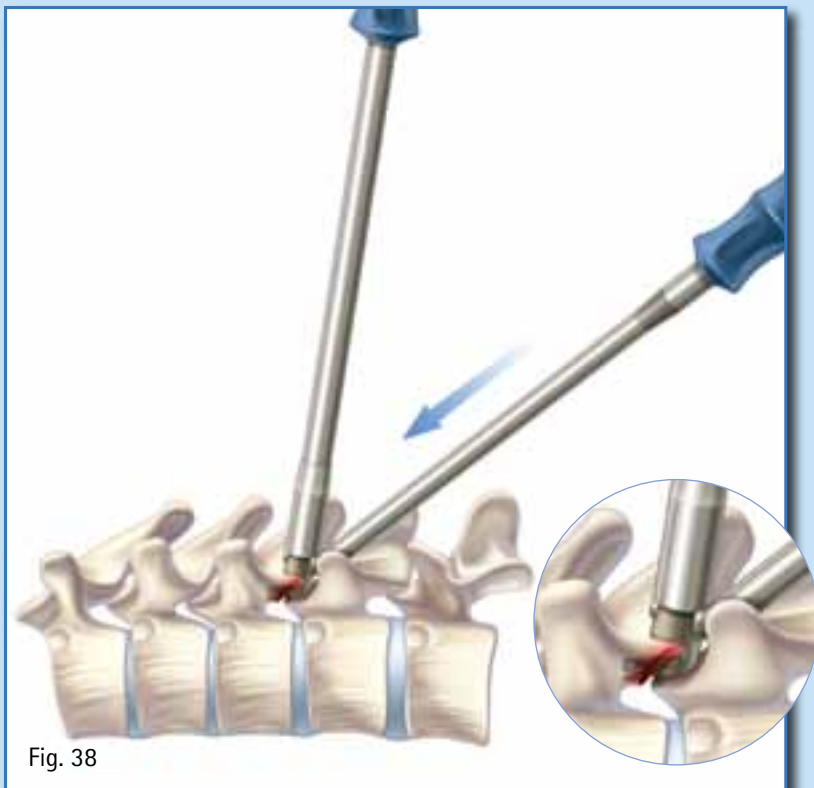

Fig. 38
- Attach the hook to the facet joint using the hook holder (FW211R) supported by the hook pusher (FW212R). The hook can be impacted by the hook pusher. (Fig. 38)